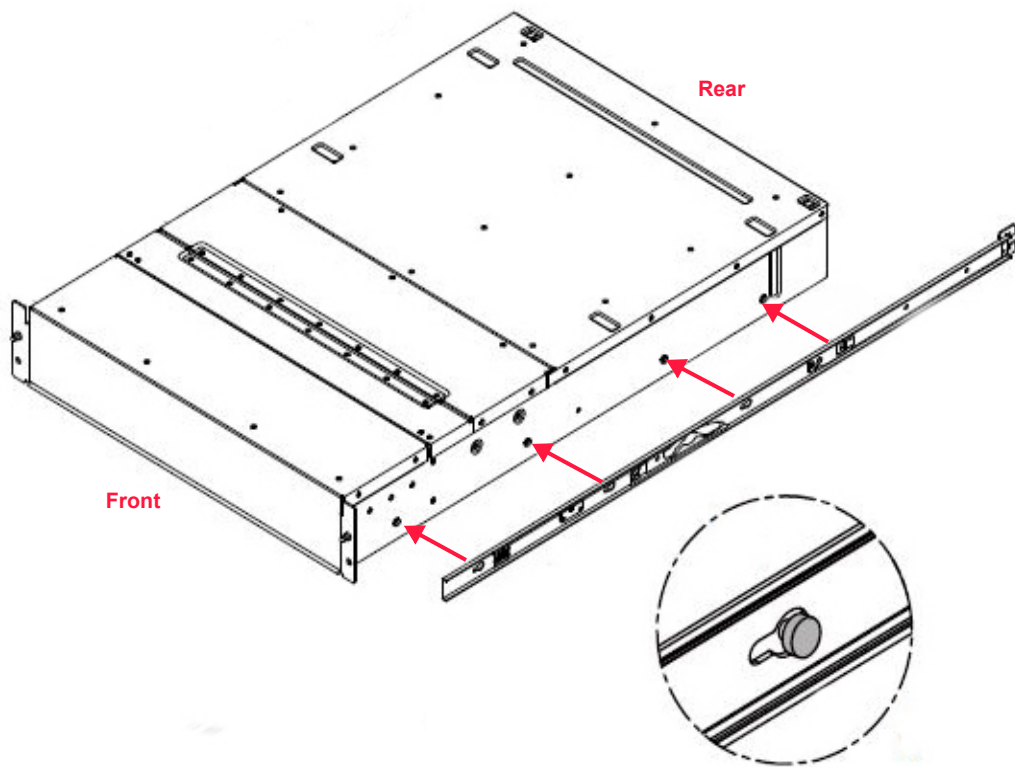

Figure 4.13 Align the standoffs with the keyholes
1. Align the large section of the keyholes on the right chassis member rail with the standoffs on the right side of the chassis as shown in Figure 4.13 on page 39.